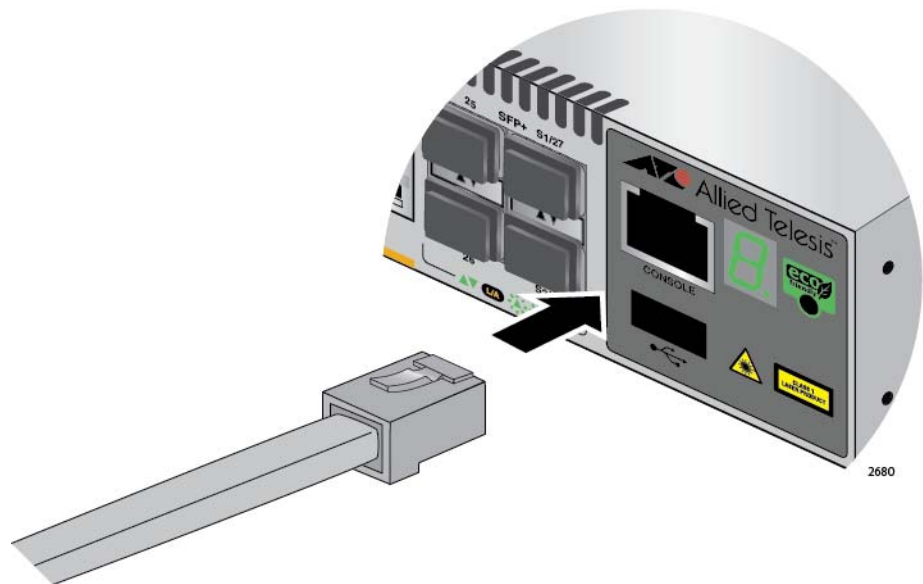

Figure 21. Connecting the Management Cable to the Console Port
1. Connect the RJ-45 connector on the management cable to the Console port on the front panel of the switch, as shown in Figure 21.